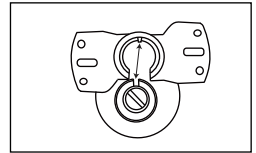

Figure 1
1. Insert the downrod ball head into the groove of the mounting bracket. (Figure 1)
## Low-profile use (Figure 1)